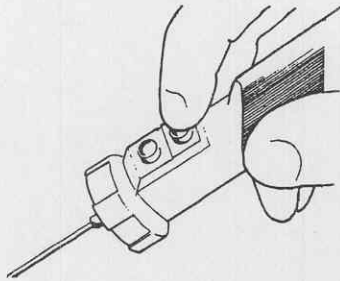

Figure 2-14. Handpiece activation.
- e. Apply pressure to the finger operated control pad (fig 2-14) on either handpiece. Depress the control pad once and the handpiece will activate. Depress the control pad a second time and the handpiece will stop.